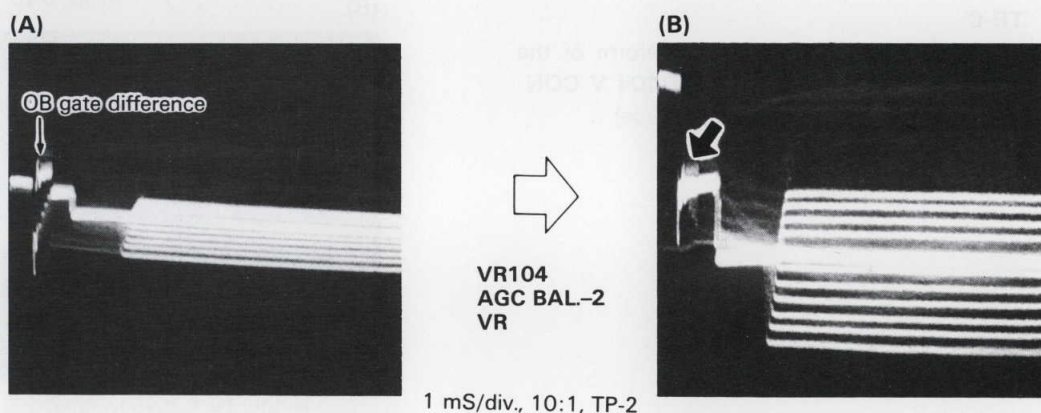

Fig. 4-4-3 AGC BAL.-2 adjustment
- (4) Set **VR104 AGC BAL.-2** either fully clockwise or counterclockwise.
- (5) Close the iris little by little stopping at that point where the OB gate difference is to be generated.
(Fig. 4-4-3(A) shows upper side slippage.)
- (6) Erase the difference by slowly turning **VR104**.